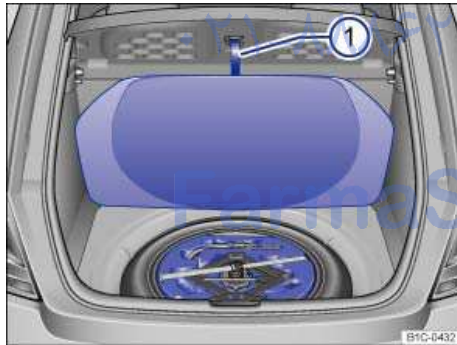

Fig. 158 In the luggage compartment: Floor covering raised and 1 secured.
- Lift the floor panel by the handle and hang it on the hook beneath the luggage compartment cover ⇒ fig. 158 \(1\).